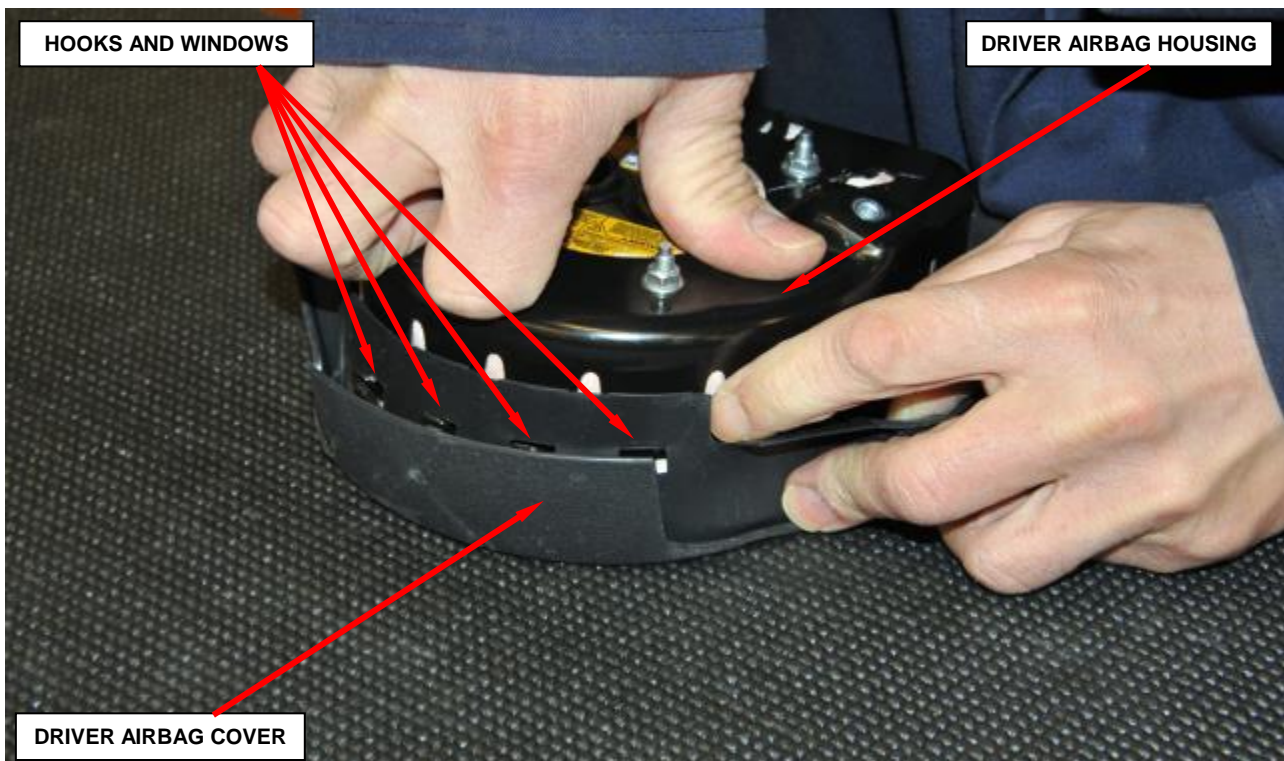

Figure 6 – Driver Airbag Cover
12. Remove the driver airbag cover starting with the left side by pressing down on the driver airbag housing until the hooks unsnap from the windows (Figure 6).